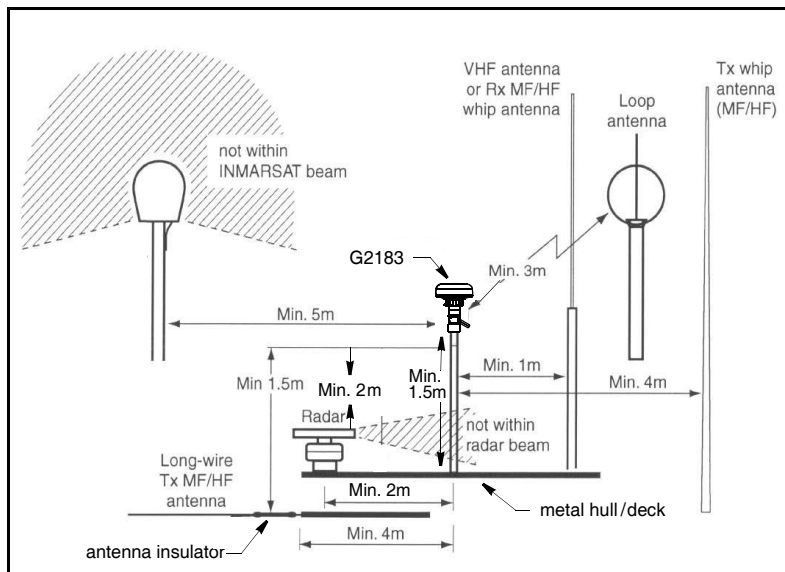

Figure 1. Minimum distance from sensor
- Mount it as far as possible from high-powered transmitting antennas to avoid mutual interference (Figure 1).